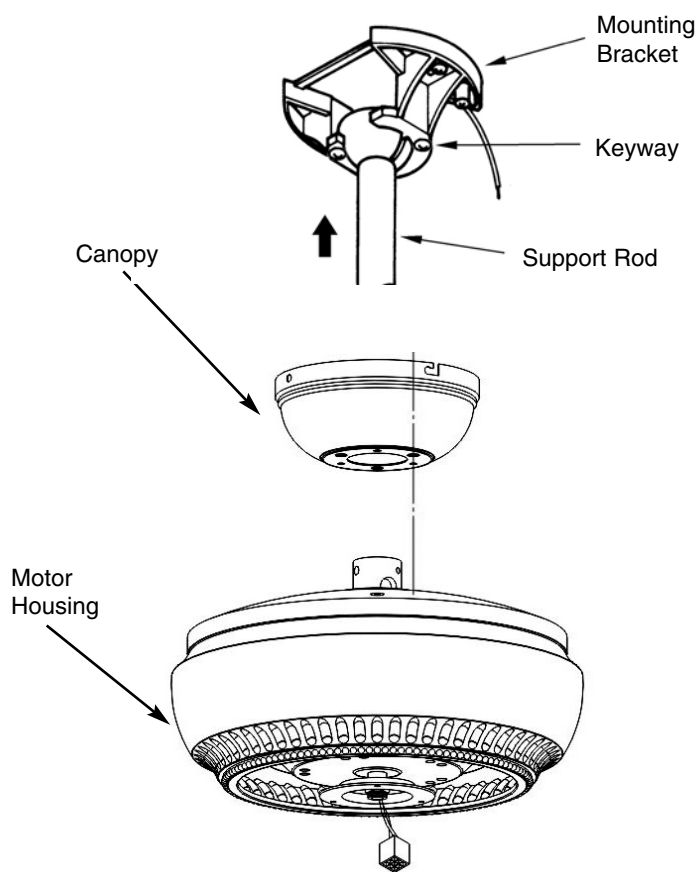

Fig. 8
Step 5 Hanging the Fan Body (see figure 8)